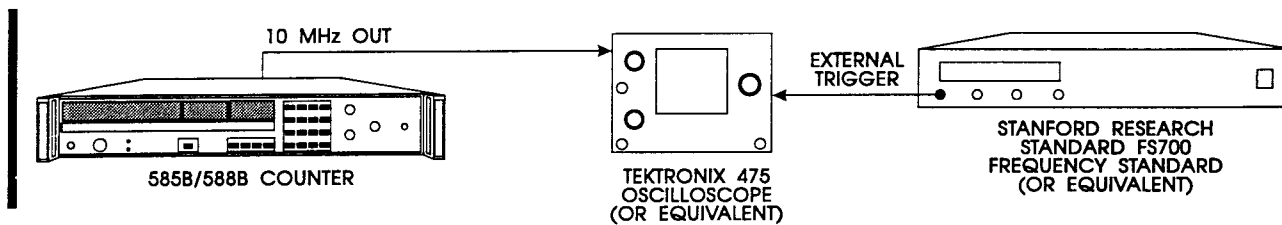

Figure 11-11. Oven Oscillator Calibration Setup.
1. Set up the equipment as shown in Figure 11-11 and described below.